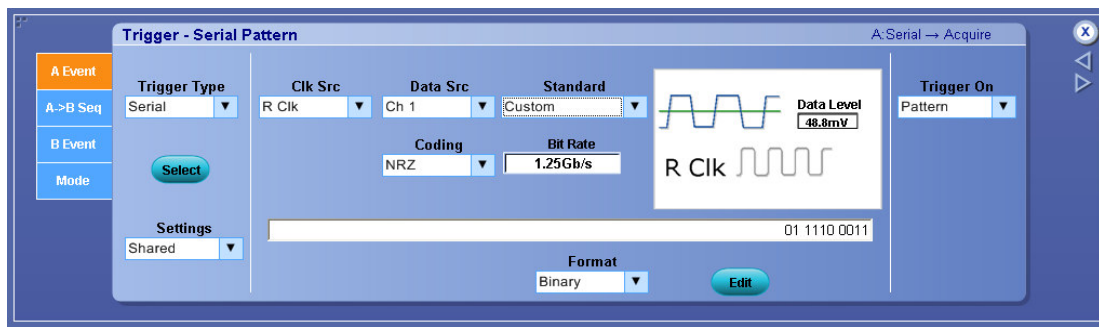

Figure 11: Trigger setup for Rise Time and Fall Time measurement
5. Go to Trigger menu, change the trigger Type to Serial, Source to DIF-P(Ch1), Bit rate to 1.248Gb/s, Pattern length is 0111100011 (Binary). See Figure 11.